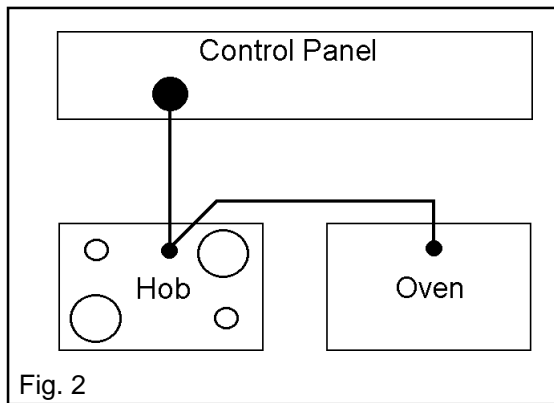

Fig. 2
- ii) By connecting the cooker point to the hob and then connecting to the oven. Provided that the hob manufacturer permits it, connect the oven to the hob and the hob to the cooker point using the same cabling as described in (a) above. Check the hob terminal block is large enough to take two cables and is of suitable rating. If not b) i) above must be used. See Fig. 2.